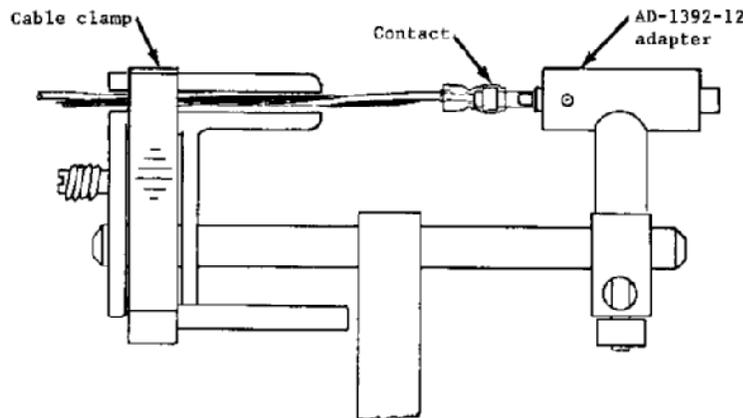
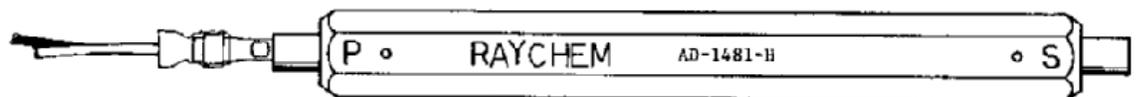

Figure 5-9. Contact Inserted into AD-1392-12 Adapter
Figure 5-10. Contact Inserted into AD-1481-H Repair Holding Fixture
2. Fixture the contact/cable assembly in the AD-1319 holding fixture (Figure 5-9) or AD-1481-H repair holding fixture (Figure 5-10).